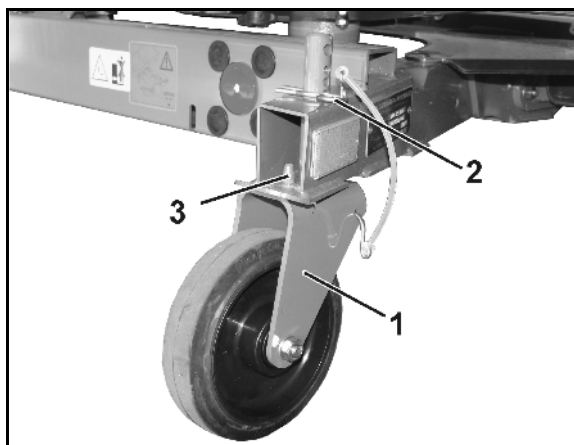

Fig. 27
6. Rigid rollers at rear (Fig. 27/1)
- o Install and secure with safety splints in bores (Fig. 27/2), or
When installing the rigid rollers ensure that the pin (Fig. 27/3) goes through the bore of the frame, thus holding the rollers in longitudinal direction.